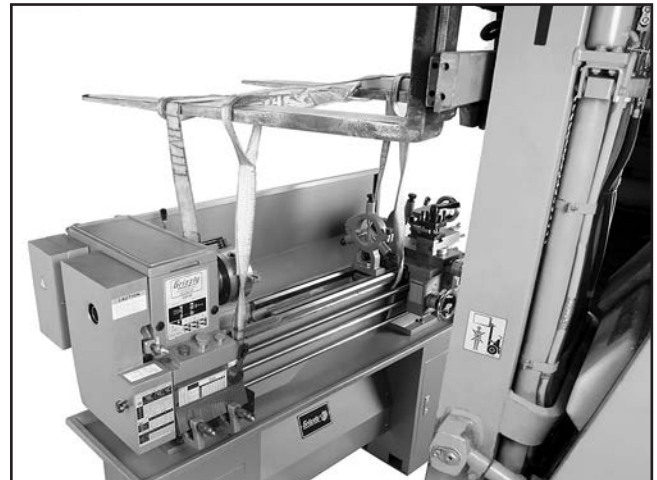

Figure 11. Lifting the lathe on the cabinet stand assembly.
7. Prevent damage to the leadscrew, feed rod, and the spindle direction rod by threading the lifting straps between the bedway and the rods, as shown in **Figure 11**.